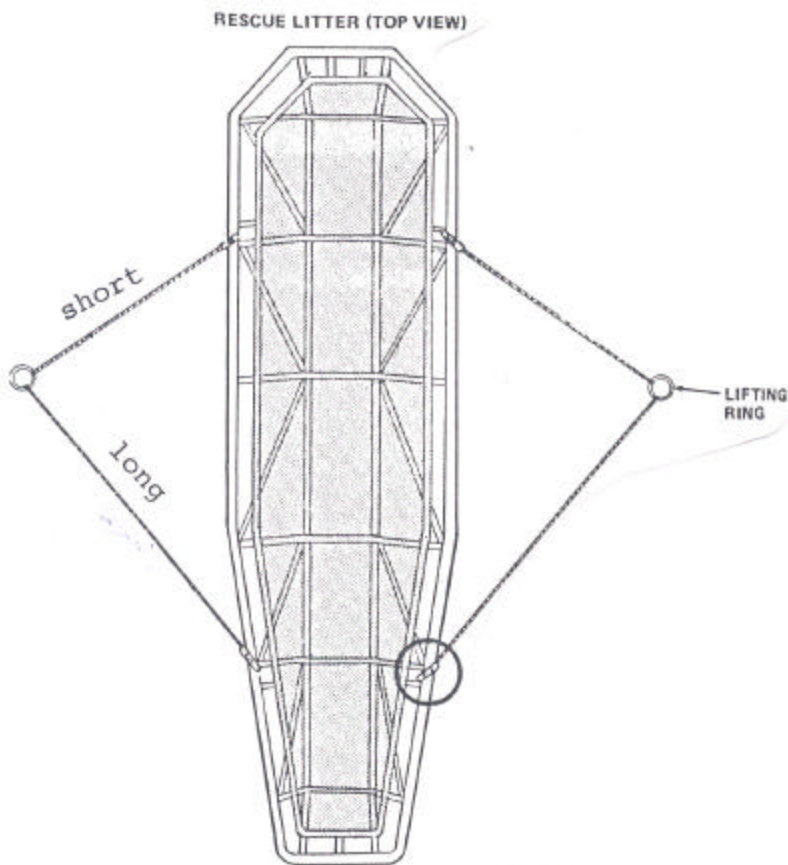
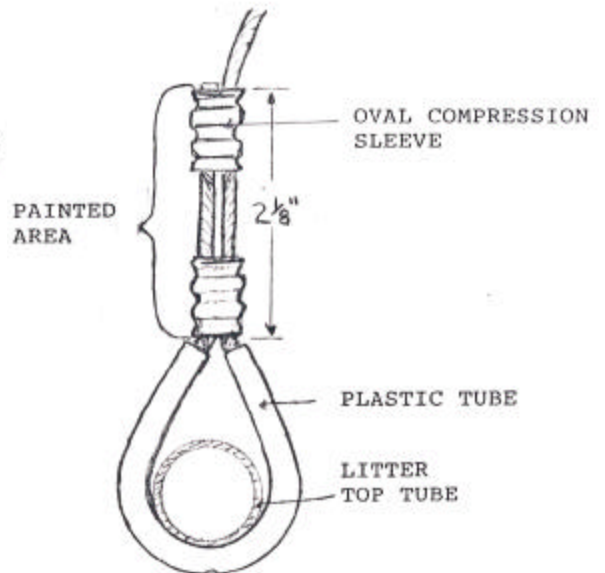

FIGURE 1
FIGURE 2
- Please read all instructions and review Figure 1 and Figure 2 prior to assembly.
1. Lay sling halves in litter bed with short cables of sling towards head section. See Figure 1.
2. Install two (2) compressions sleeves and one (1) plastic tube on short cable.
3. Locate head section sling attachment point. Pass end of short (head) cable from inboard of the litter under and round the top tube. Slide first compression sleeve down cable to about 8 to 10 inches from plastic tube. Insert cut end of cable into compression sleeve so that sleeve is over inboard painted area. See Figure 2. Hold end of cable and sleeve in position and pull ring end of cable to form a loop with the plastic tubing. While holding this position, have an assistant align compression tool in center of oval compression sleeve and compress. Compress same sleeve two more times (for a total of three crimps) centered between center compressions area and each end of the sleeve. Position second oval compression sleeve with approximately 1/16" of cable extending from sleeve and compress sleeve as above. Three compressions are required per sleeve. See Figure 2.